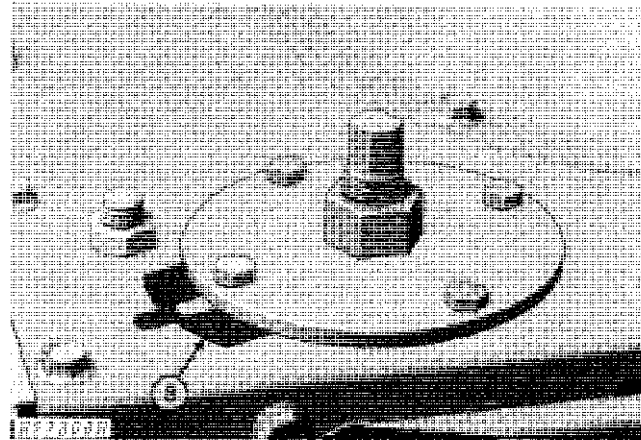

Fig. 52-Shimming Stub Shaft Housing Flange
1. Loosen the bolts in the stub shaft flange at the top of the unit (Fig. 52). Move the stub shaft bearing housing toward the drum to the end of the slots. Tighten bolts down and back off 1/2 turn.
8. Shim any gap between upper bearing housing flange and top of unit (Fig. 52), or lower bearing housing flange and bottom of unit, using N34164 Shim (0.010 inch [0.25 mm]). Tighten bolts.